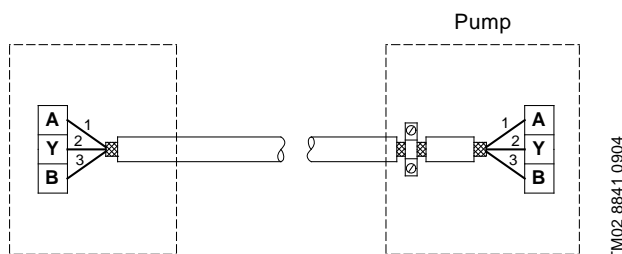

Fig. 14 Connection with screened 3-core cable
- If the unit has no cable clamp as shown in fig. 14, leave the screen unconnected at this end.